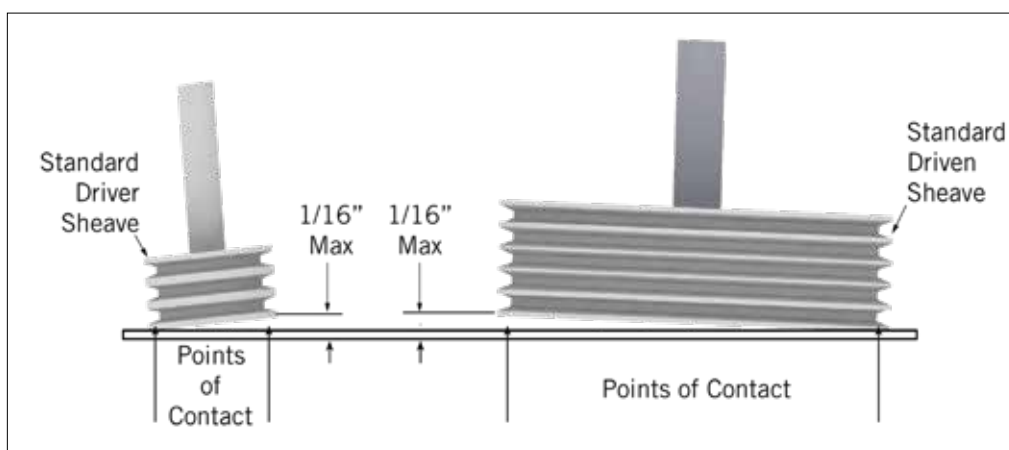

Figure 5. Drive Alignment
- Place a straight edge across the driver and the driven sheaves as shown in **Figure 5**.
- The straight edge should contact all four points as shown in **Figure 5** indicating that the drives are properly aligned.
Coat the motor base slides and adjusting screws (refer to **Figure 5**) prior to start-up, every three months while in operation, and following shutdown. Use good quality, corrosion inhibiting grease such as one of those recommended for lubricating the fan shaft bearings on **page 14**.